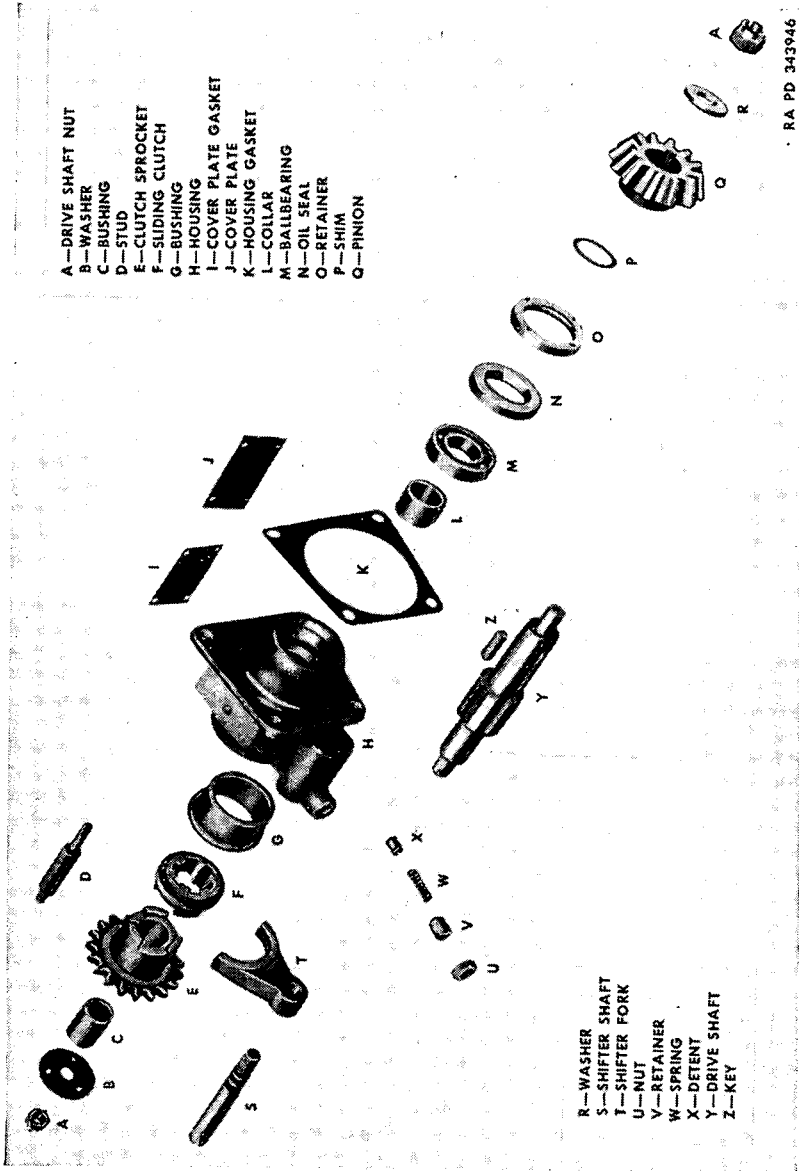

Figure 88—Power Leveler Clutch Assembly, Disassembled
92. DISASSEMBLY OF POWER LEVELER CLUTCH ASSEMBLY (fig. 88).
94. ASSEMBLY OF POWER LEVELER CLUTCH ASSEMBLY (fig. 88).
e. Thread the shifter shaft into the housing (fig. 90) and into the shifter fork which was previously assembled in the housing (c above). Assemble the detent assembly (detent, spring, retainer, and nut) (fig. 88) in the housing. Thread the shifter shaft into the shifter fork so there is about $\frac{1}{8}$ -inch clearance between the end of the jaws on the sliding clutch and the clutch sprocket when the detent is in the upper groove of the shifter shaft.